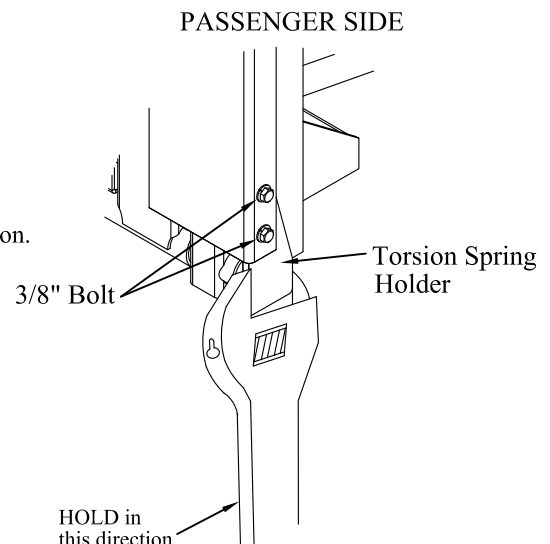

Figure 4: Release the square torsion spring.
Use this method if your lift gate has a square torsion spring (Figure 4)
Use an open-end wrench, crescent wrench, or vice grip (Figure 4).
3. **REMOVE** the two (2) 3/8" bolts from the platform (Figure 4).
3. **INSERT** the spring into the torsion spring holder that has two threaded holes on the passenger side of the platform (Figure 4).
4. **INSERT** the machined end of the torsion spring holder into the hinge tube (Figure 4).
5. **POSITION** the torsion spring holder against the platform lid end (Figure 4).
7. **DRILL** two (2) 3/8" holes in the locations marked in the previous step (if holes in platform do not already exist).
13. **INSTALL** the 3/8" bolts and lock washers as shown in (Figure 4).